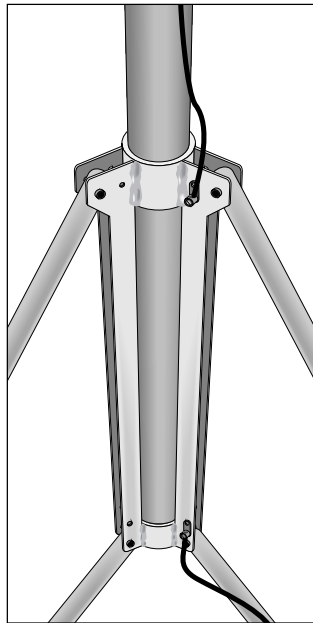

FIGURE 2-5. Tripod Ground Connections
3. Loosen the set screws in the two brass ground lugs attached to the center bracket of the tripod (Figure 2-5). Strip 1 inch of insulation from the other end of the 4 AWG wire and insert it into the lower ground lug. Tighten the set screw. Strip 1 inch of insulation from one end of the 12 AWG wire and insert it into the upper ground lug. Tighten the set screw. The other end of the 12 AWG wire will attach to the ground lug of the instrumentation enclosure.